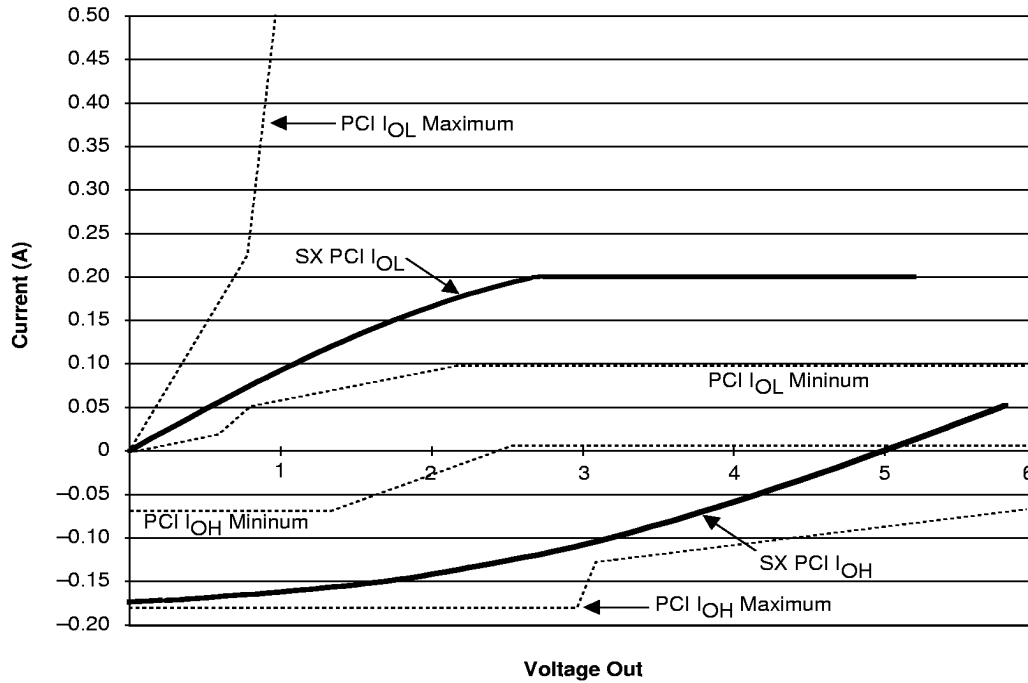

Figure 9 • 5.0V PCI Curve for A54SX16P Family
- Refer to the VI curves in Figure 9. Switching current characteristics for REQ# and GNT# are permitted to be one half of that specified here; i.e., half size output drivers may be used on these signals. This specification does not apply to CLK and RST# which are system outputs. "Switching Current High" specification are not relevant to SERR#, INTA#, INTB#, INTC#, and INTD# which are open drain outputs.
- Maximum current requirements must be met as drivers pull beyond the last step voltage. Equations defining these maximums (A and B) are provided with the respective diagrams in Figure 9. The equation defined maxima should be met by design. In order to facilitate component testing, a maximum current test point is defined for each side of the output driver.
Figure 9 shows the 5.0V PCI VI curve and the minimum and maximum PCI drive characteristics of the A54SX16P family.